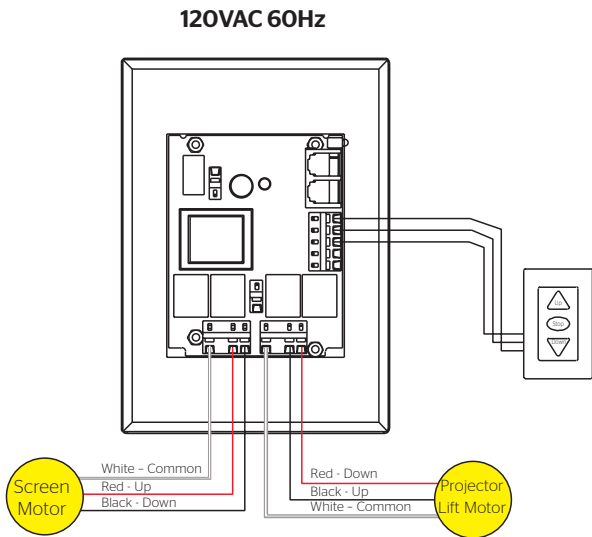

Figure 10
2. Connect the motor wires in the screen and Da-Lift junction boxes to the DMC as shown in Figures 10 or 11.